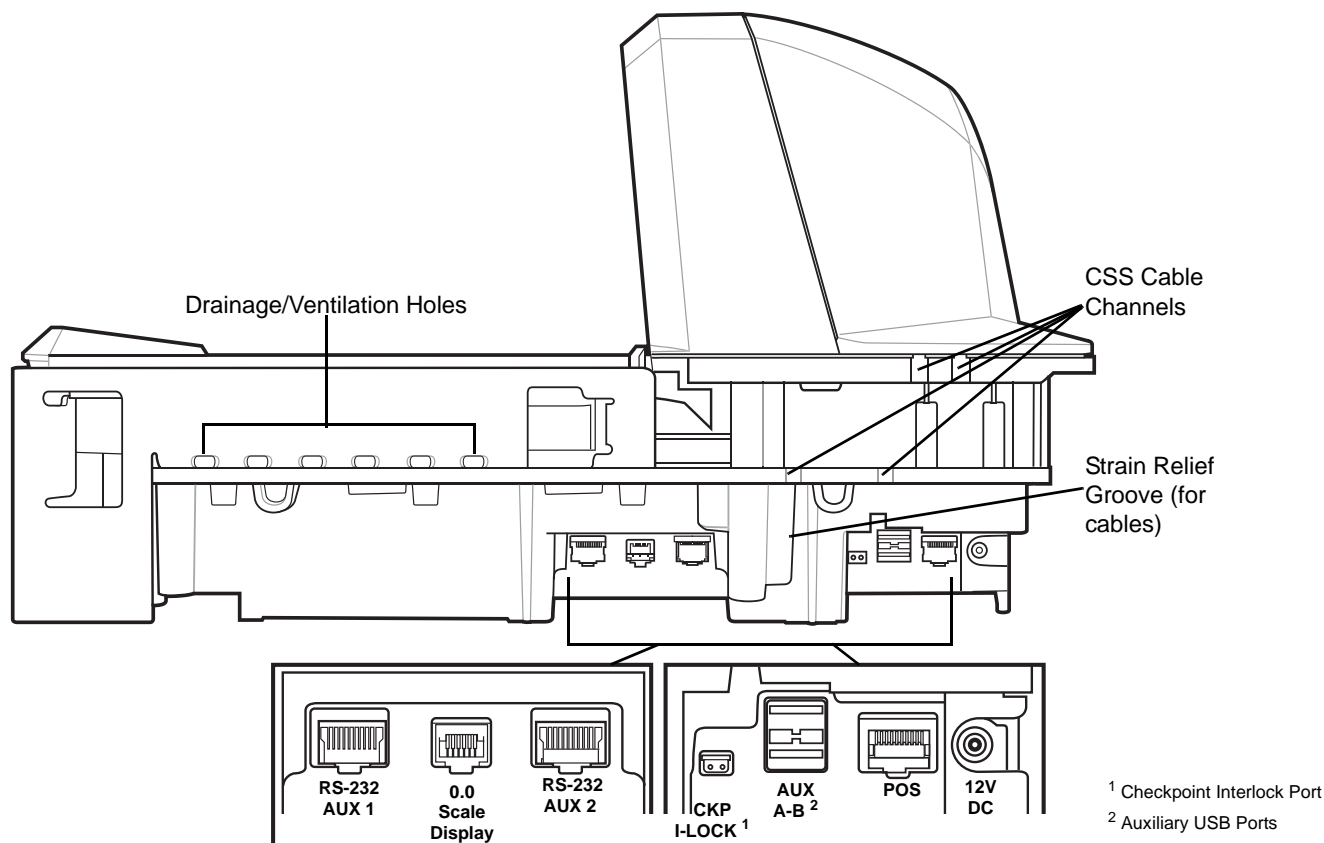

Figure 1-3 Right Side View/Connector Ports
- Two RS-232 auxiliary ports (AUX 1/AUX 2; see Figure 1-3 on page 1-10).
- Dual cable scanner/scale: Via RS-232 AUX 1, or RS-232 AUX 2 ports (see Figure 1-3 on page 1-10, and Table 2-3 on page 2-13).